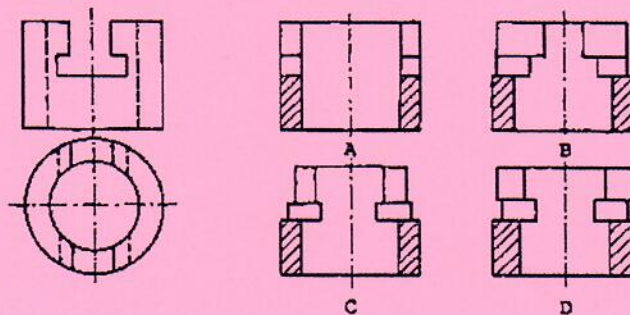

Figure 4 Front and plan of a ring-jaw bracket sectioned in the side view
d) Identify the correct sectional side view of the orthographic views of a ring-jaw in Figure 4 [2 marks]